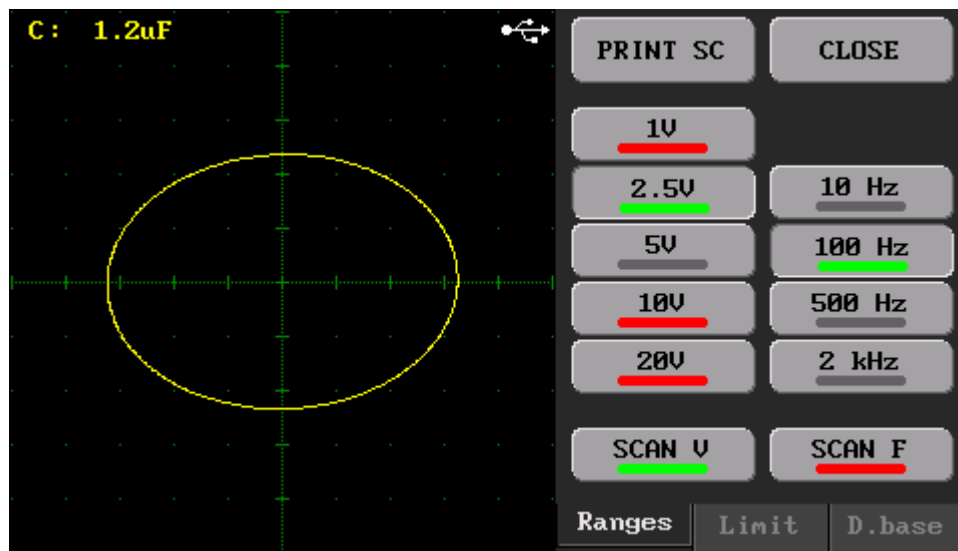

Figure 4. Scan\_V Mode overview (1.0V, 2.5V and 20V levels canceled)
**SCAN\_V:** Scans the Test Voltage levels per second. When the level that is not wanted to be scanned is pressed for more than 2 seconds, that level is disabled. Inactive levels are marked in red. If it is desired to be activated again, 2 sec. is held down (Figure 4).